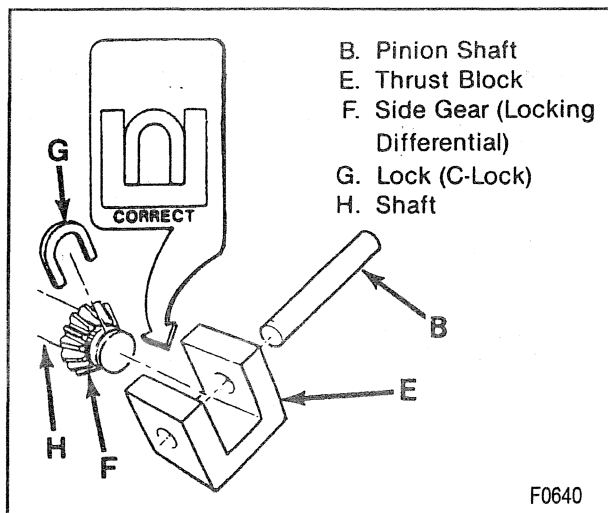

Figure 9—Aligning the Lock
- With a locking differential, remove the shaft (B) part way, and rotate the case until the pinion shaft touches the housing.
6. Lock (figure 9).
- Slide the axle shaft into place allowing the splines to engage the differential side gear (F) (figure 9).
- B. Place the lock in the position shown in figure 9. Pull the shaft flange outward to seat the lock in the differential side gear.